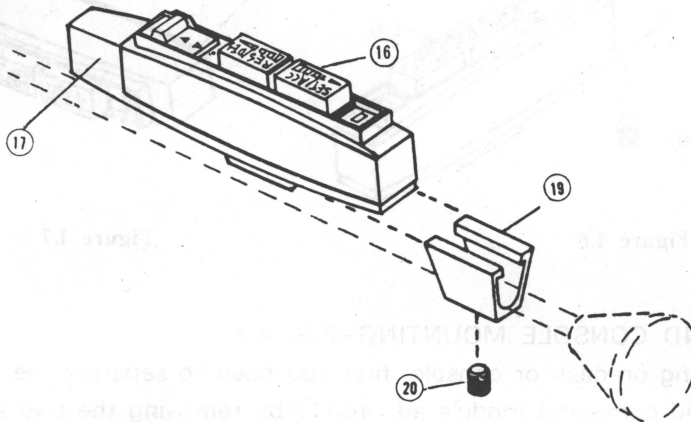

Figure 4.5
2. PIGGY BACK MOUNTING—FIG. 4.5
Insert set screw (20) into piggy back adapter (19). Do not tighten. Slip adapter over the turn signal arm, then slide grooves in module adapter base into piggy back adapter (see Fig. 4.5). Be sure grooves are properly engaged. Move command module to desired position and tighten set screw. Route wire harness as described in turn signal arm end mounting.